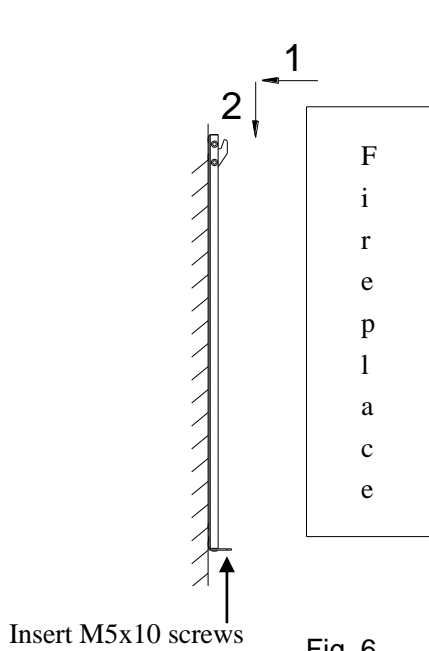

Fig. 6
6. Hang the fireplace on the hooks at top and push the fireplace into the bracket and then insert the short M5x10 screws into the bottom support tabs. (Fig. 6)